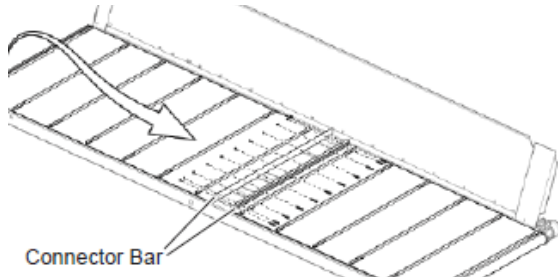

Figure 87
2. Move the splice to the end of the header and remove all the bolts in the splice. Figure 87